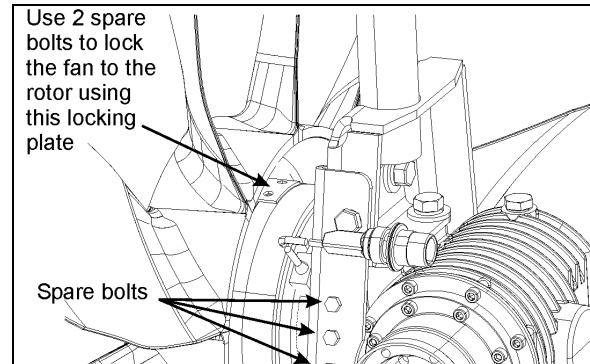

FIGURE 25: MECHANICAL LOCKING
- Screw in and tighten the spare bolts (Fig. 25).